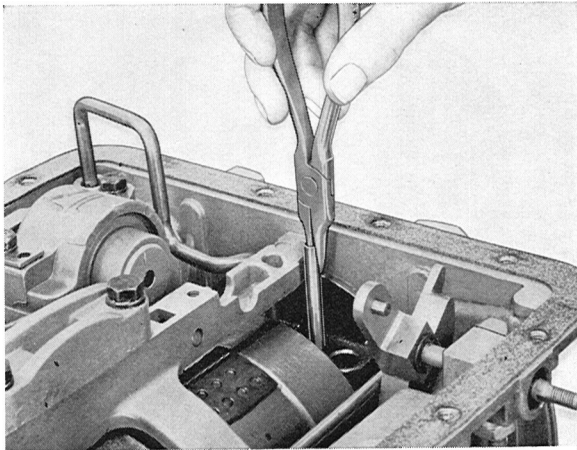

Fig. 4-93. Removing converter inlet and outlet tubes using needle-nose pliers
20. Remove the oil tubes in the housing. If necessary, pull them out with needle-nose pliers as shown in Fig. 4-93.